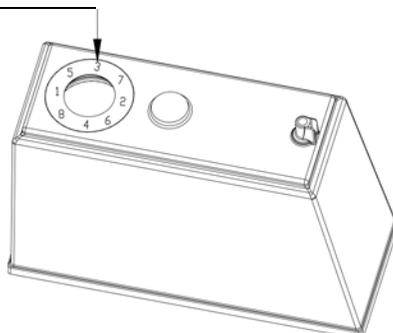

Figure 2
3. Turn bowl upside down and insert gasket into groove. Wet gasket for ease of insertion, pressing gasket into groove while following the number sequence (1 - 8) shown in Figure 2.